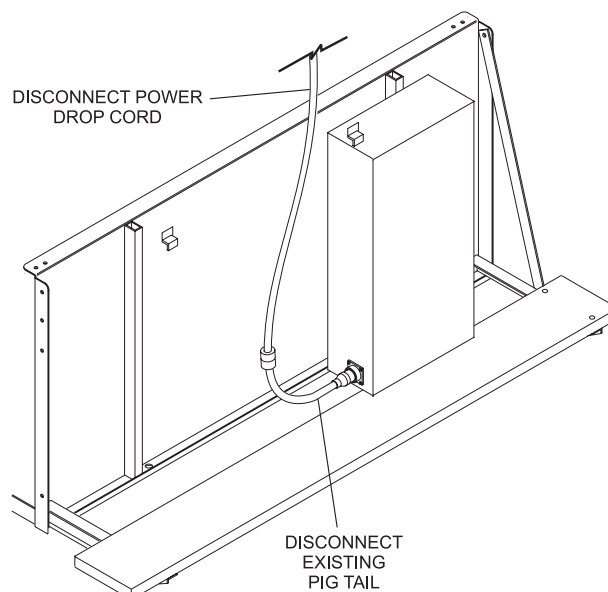

Figure 1
1. Remove the existing main power to the GS Nexgen Box. Refer to *Figure 1*.